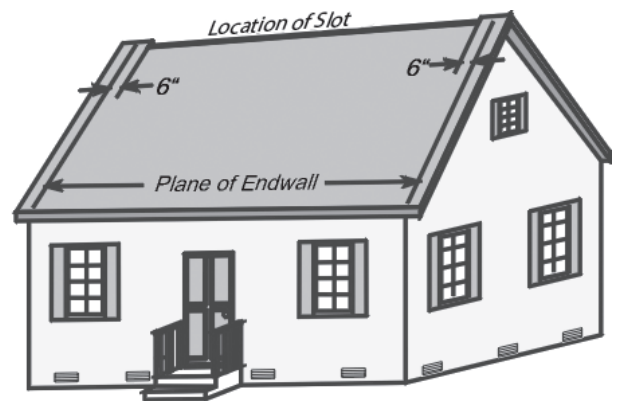

Figure 3
NOTE: DO NOT CUT THE VENTILATION SLOT THE ENTIRE LENGTH OF THE RIDGE. THE LENGTH OF THE CUT WILL BE ONE (1) FOOT LESS THAN THE LENGTH BETWEEN THE END WALLS (SEE FIGURE 3).
The length of the slot should end 6 inches inside each end wall as shown in Figure 3. Mark the width to be cut with a chalk line (for a straighter cut) and also mark the end of the slot. The slot is best cut with a circular saw taking care to set the depth of the cut to avoid cutting any rafters. Cut the slot and remove the cut decking.